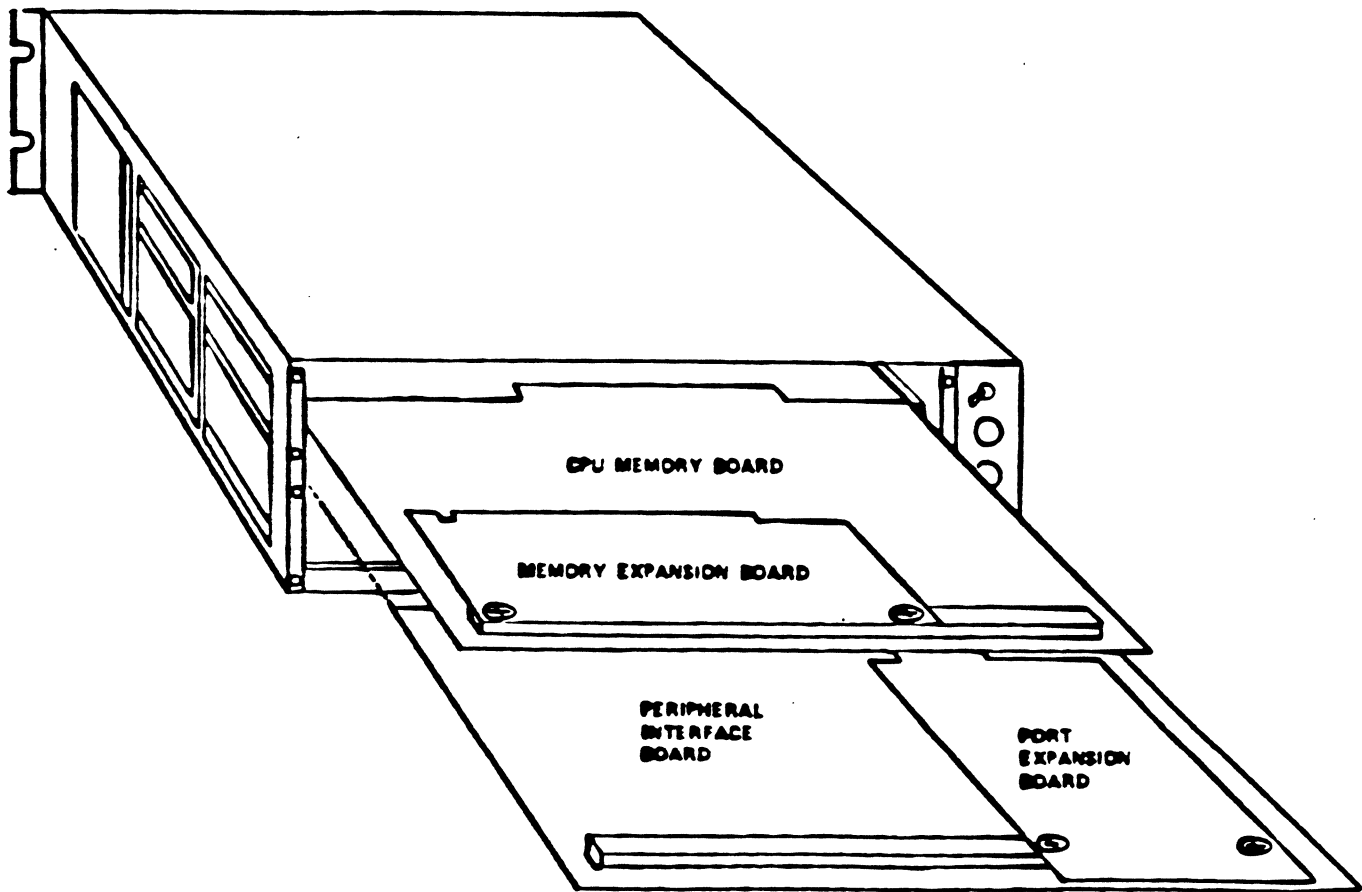

Figure 3. Port Expansion Board Installation
- b. Install Port Expansion Board, connecting to 50-pin connector on PIB, and secure with screws (see Figure 3).